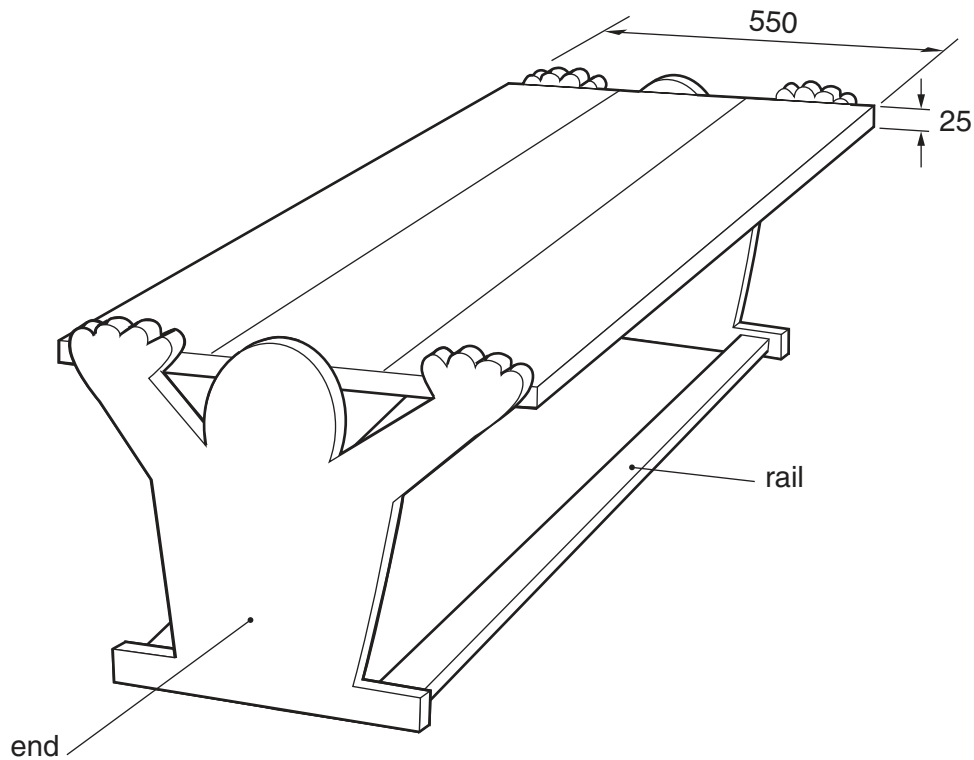

Fig. 3
- 6 Fig. 3 shows a table to be used in a junior school. The table is supplied flat-pack for self assembly.